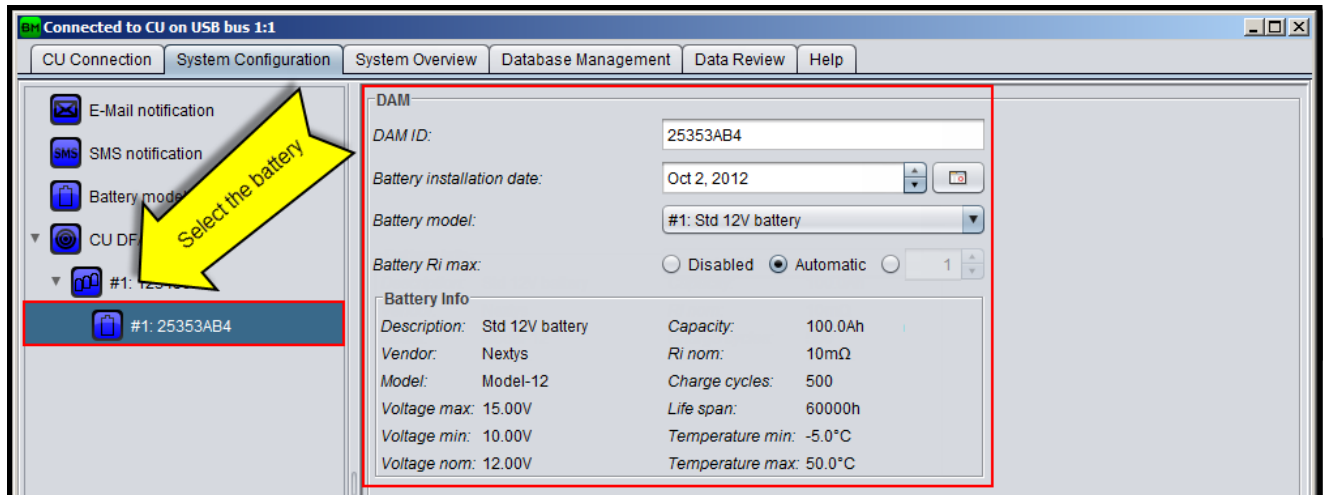

Figure 29: Battery configuration
2. Select the added string icon as shown in Figure 29 and fill in the following fields:
5. Select the added battery icon as shown in Figure 29 and fill in the fields as explained in §7.4.2.